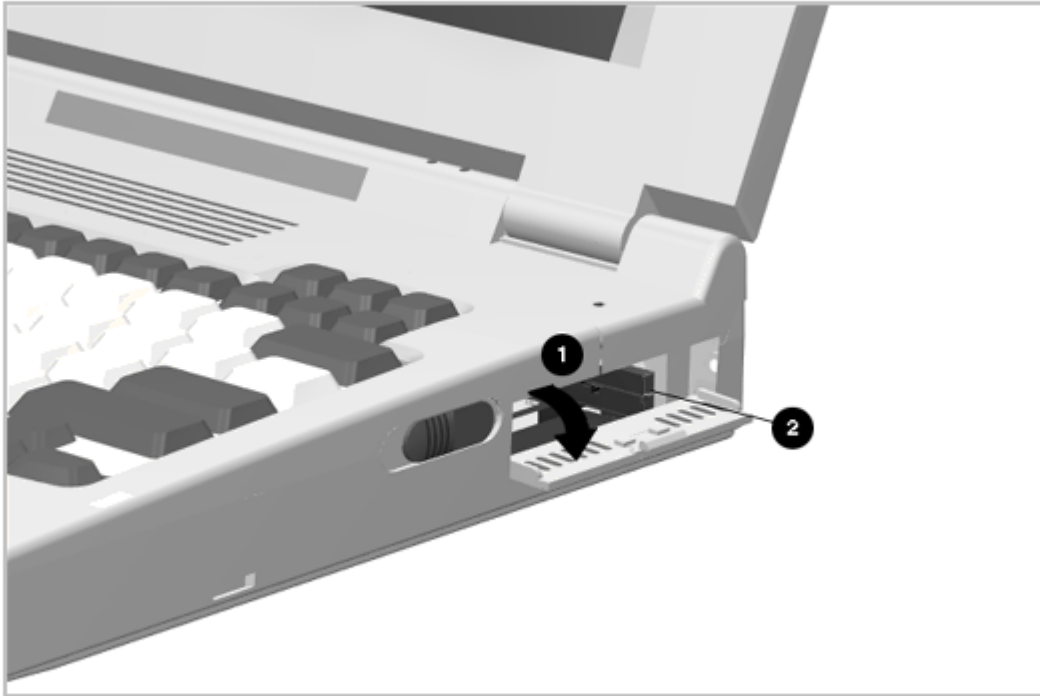

Figure 5-14. Removing a PC Card
1. Open the PC Card door [1] (Figure 5-14).
2. Press on the PC Card release button [2] to remove the PC Card (Figure 5-14).